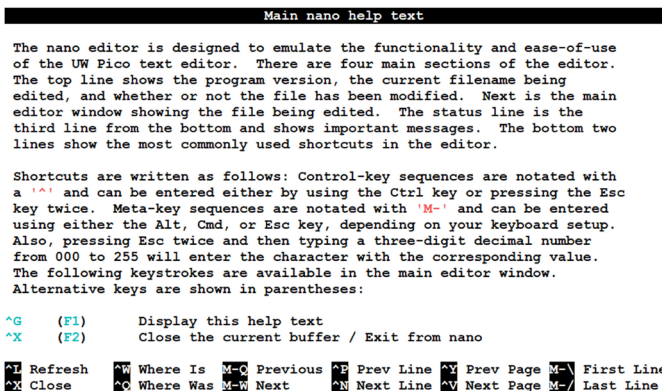

Figure 2.3 Example help screen
- To get help on using nano, enter **Ctrl+G**. An example help screen is shown in Figure 2.3. Enter **Ctrl+N** to display the next page, and **Ctrl+P** to display the previous page. Enter **Ctrl+X** to close the help screen.